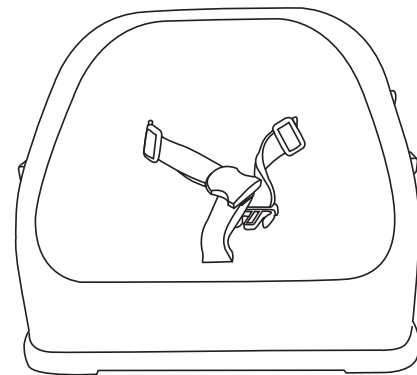

Fig. 1
1. Place floor seat on a level floor only never on a raised surface (Fig. 1).